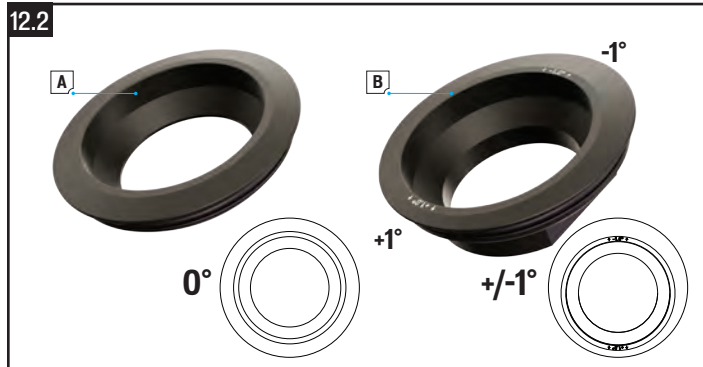

Fig. 12.2
- Loosen the stem bolts that attach it to the fork steerer (A).
- Loosen and remove the top cap bolt (B).
- Remove the stem (C) from the fork steerer tube (D) and remove the fork from the frame (E).
- Choose the headset cup and position (Fig 12.2) for the rider's desired geo.